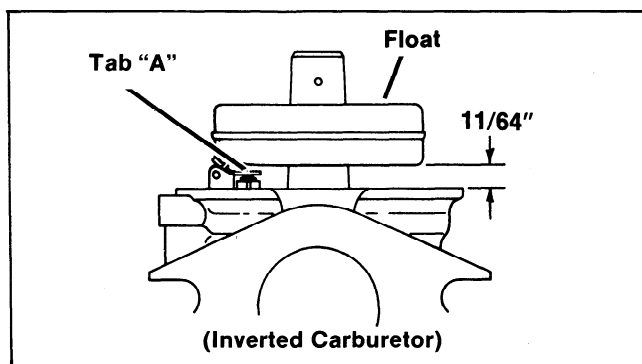

Figure 4-4. Setting Float Level
2. **Set float level.** Invert carburetor—with float resting lightly against inlet needle in its seat, there should be $11/64$ " ($\pm 1/32$ ") clearance between machined surface of casting and free end of float (side opposite needle seat). Adjust by bending float tab “A” with a small screwdriver. See Figure 4-4.